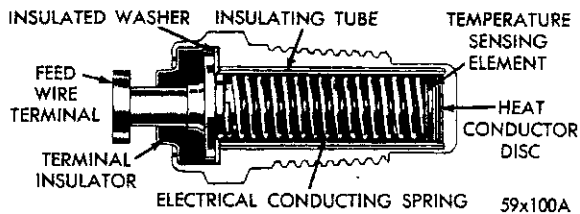

Fig. 134—Engine Temperature Sending Unit
c. Engine Temperature Sending Unit (Fig. 134)